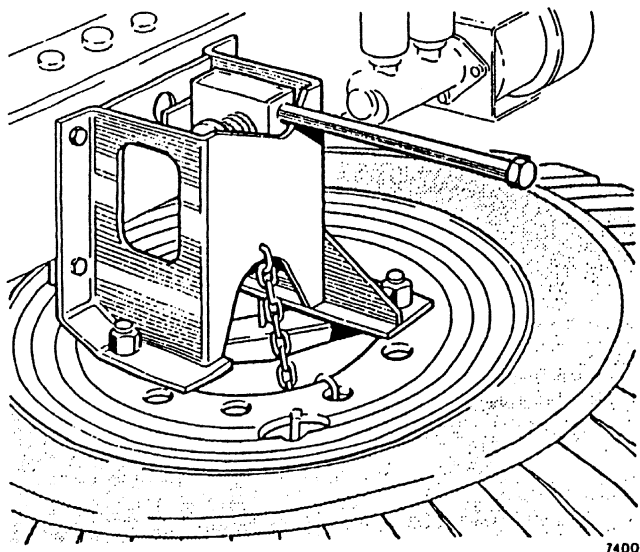

Fig 31 Spare wheel carrier
44. Lamp access is gained after removing the rim securing screw and easing the rim away from lens (Fig 31). Remove lens by easing it away from the light body and sideways out of rim.